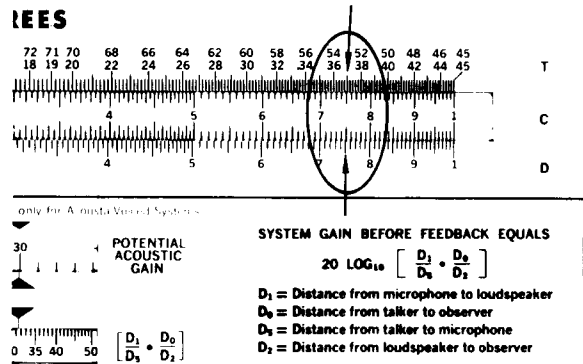

Figure 6
2. Using Side Two of the calculator find 37 degrees on the "T" scale. Opposite this angle read the number on the "D" scale — 37 degrees = 0.75 (see Figure 6).